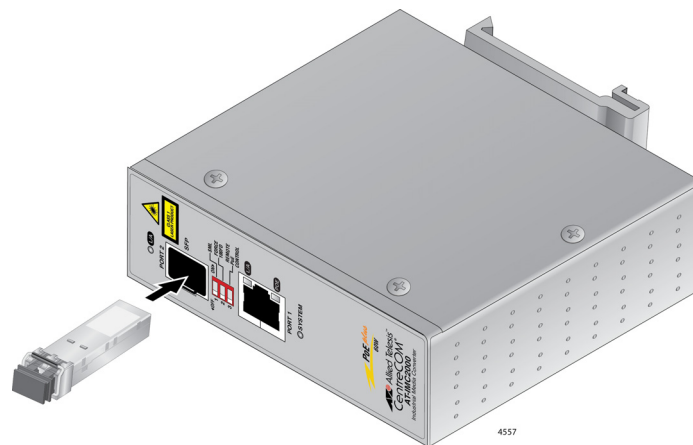

Figure 20. Inserting the SFP
- Slide the transceiver into the SFP slot until it clicks into place. See Figure 20.